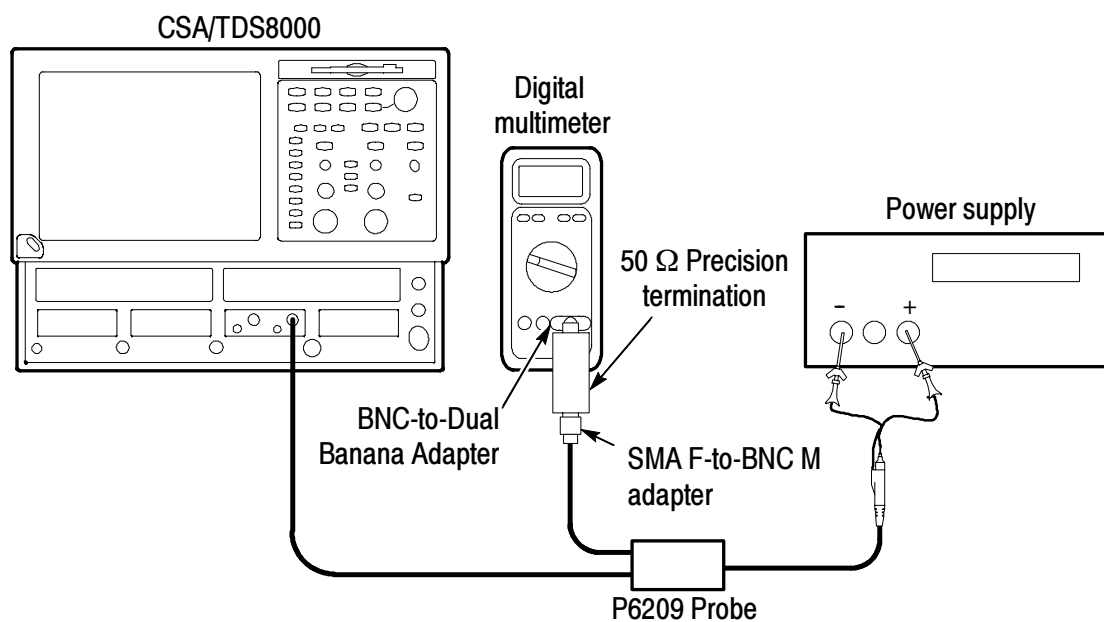

Figure 19: P6209 offset range setup
9. Connect the equipment as shown in Figure 19. Take care not to disturb the offset level setting.